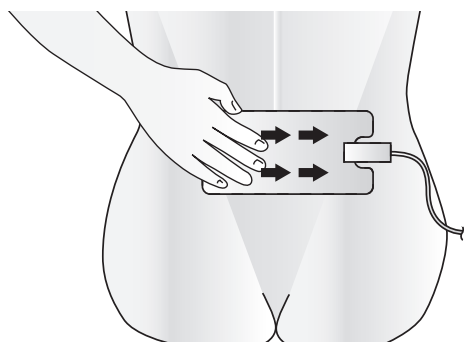

Figure 4-7. Securely Apply Return Electrode to Lower Back.
- b. Apply the return electrode at one edge (Figure 4-7) and press firmly; smooth to opposite edge so the entire area is completely attached to the patient's skin.